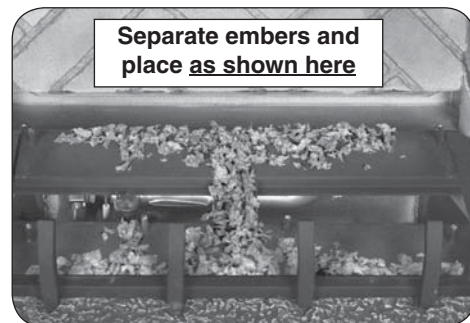

Fig. 31-4 D1-30/36: Place glowing embers
1. Separate the glowing embers into small pieces and evenly place them along the burner ports as shown in Fig. 31-4.